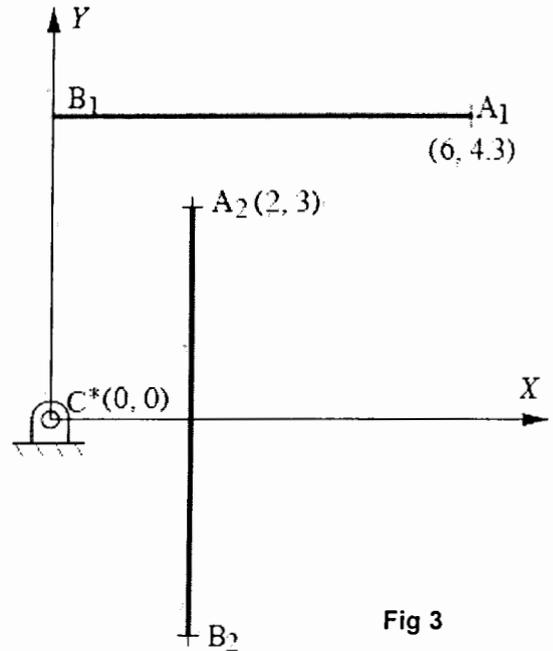

Fig 3
a. Design a four-bar linkage to move a coupler containing the line AB through the three positions shown in figure 3. The moving pivot (circle point) of one crank is at A and the fixed pivot (center point) of the other crank is at C*. Draw the linkage in position 1, and use Grashof's equation to identify the type of four-bar linkage designed. Position A_1B_1 is horizontal, and positions A_2B_2 and A_3B_3 are vertical. $AB = 6$ cm.